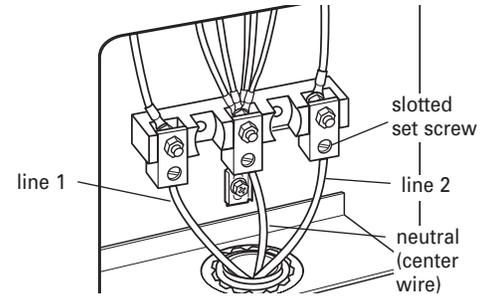

Figure 3
8. Connect the neutral wire (center wire) to the center terminal screw on the terminal block. See Figure 3.
9. Connect the other two wires (lines 1 and 2) to outer terminal screws on the terminal block. See Figure 3.
10. Loosen (do not remove) the 3 slotted set screws. Insert the neutral (white) wire into the hole at the bottom of the center position lug (attached to center terminal screw of terminal block). See Figure 3. Connect the other two wires (lines 1 and 2) to the outer aluminum lugs. Securely tighten the set screws. For 8 gauge copper wire, tighten to 25 in/lbs of torque, and for 6 gauge aluminum wire, tighten to 35 in/lbs of torque to make a proper electrical connection. See Figure 3.